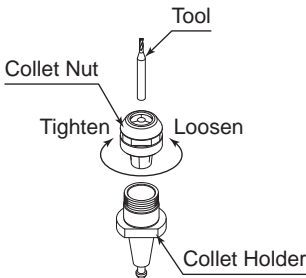

Fig. 6
- (2) Attach the collet and collet nut to the collet holder and lightly finger tighten (Do not completely tighten until the end) (Fig. 6).